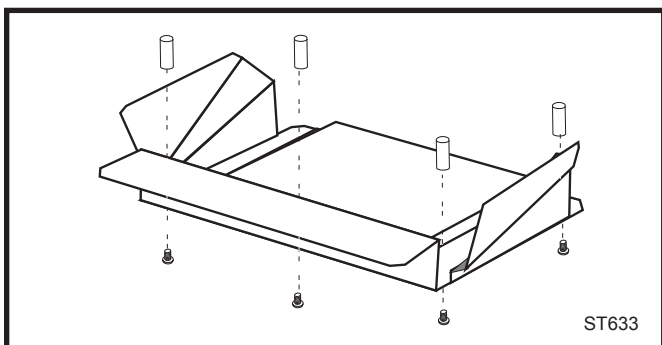

Fig. 29 Use four (4) spacers to attach the bottom heat shield.
2. Screw the four (4) 1 1/4" spacers into the holes from which you removed the bolts, finger-tight. Partially insert a bolt into each spacer. Do not tighten.
4. Pass all four bolts through the large end of the keyholes. Pull the shield forward to engage the smaller ends of the keyhole slots. (Fig. 29)
5. Attach the heat shield sides by passing the slots over the bolt heads. Tighten the hex bolts. (Fig. 29)